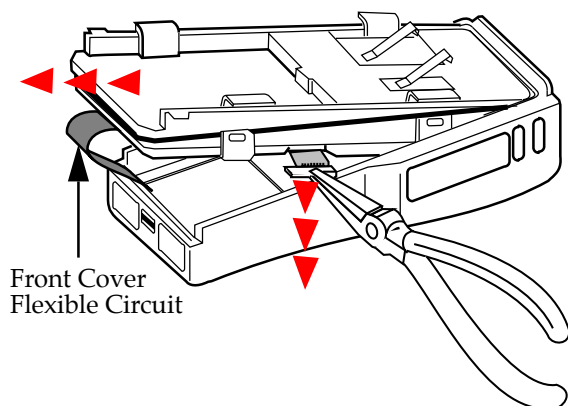

Figure 1-4. Remove Ribbon Cable Connector
6. Pull the chassis out and away from the housing as shown by the arrow (Figure 1-4) and beware of the front cover flexible circuit.
5. Remove the ribbon cable connector from the main board using pliers or a flat blade screwdriver (Figure 1-4).